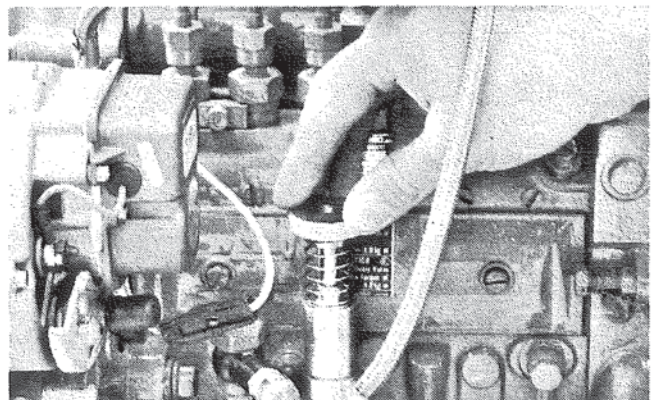

Figure 19. Bleeding Air from Filter.
B. Operate priming pump at side of injection pump until fuel (without air bubbles) flows from bleed hole. Figure 19. Tighten plug.